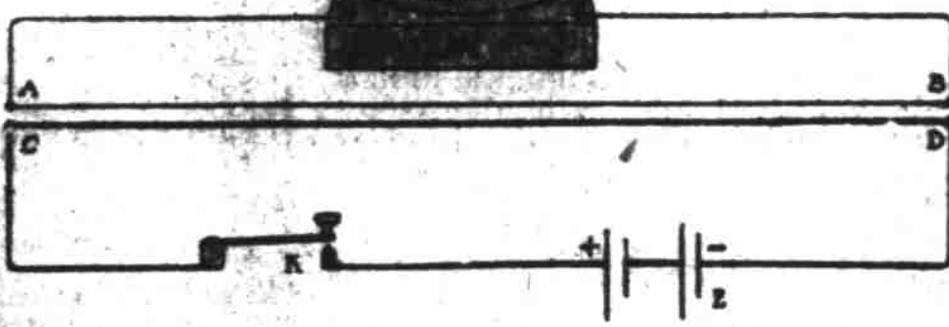

Fig. 4.—How current is produced in an induction coil
(2) By making or breaking the primary circuit. Imagine two wires A B and C D, Figure 4, that are parallel to each other and very near together, but connected in two electrically independent circuits. The wire A B is in series with the galvanometer, G, and connected to the secondary circuit. The wire C D is in series with a battery, B, and a switch, K, which may be used in opening and closing the primary circuit. When the primary circuit is completed by closing the switch K there will be a current through the wire C D from C toward D. This current will produce a magnetic field about the wire C D, and the lines of force of this magnetic field will cut the wire A B, which will result in an induced pressure being produced in the wire A B and causing a current from E toward B.